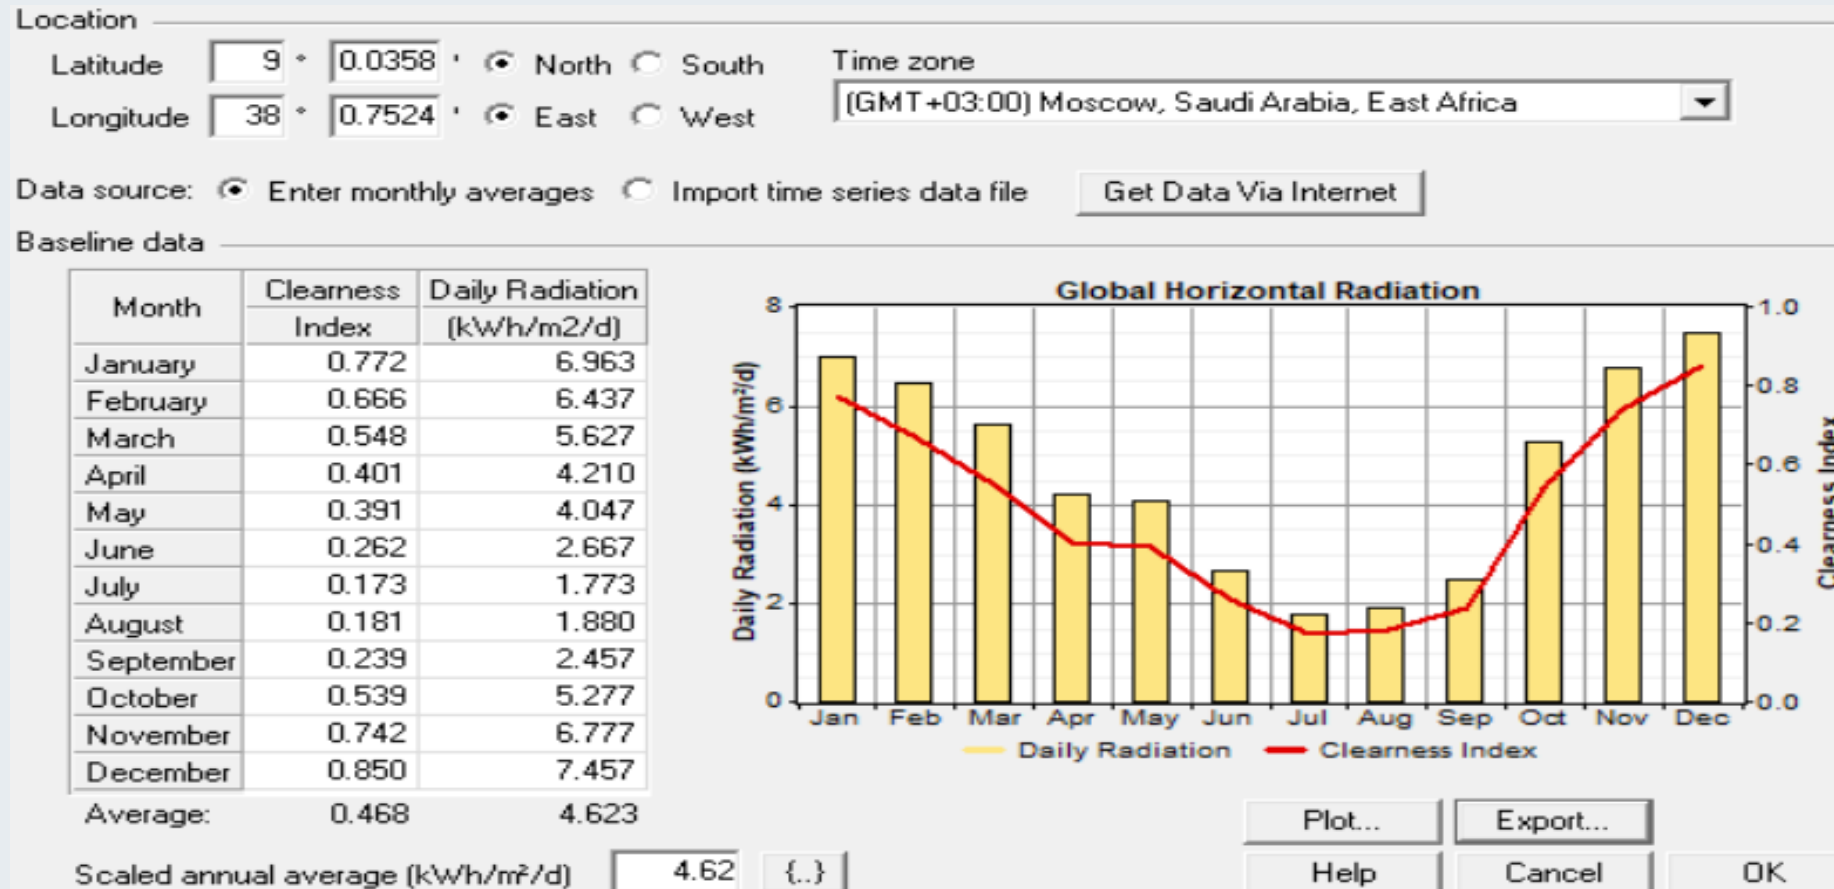

Figure 4. The daily radiation in kwh/m2/day of A.A with clearness index
- The daily radiation in kwh/m2.day for A.A using the radiation and coordinate data presented above is given in Fig.4